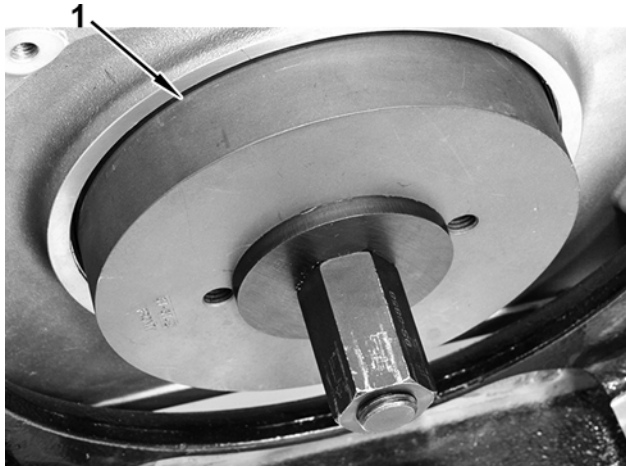

Figure 26 Seal Fully Seated
31. Tighten driving nut until seal driver bottoms (Figure 26, Item1).